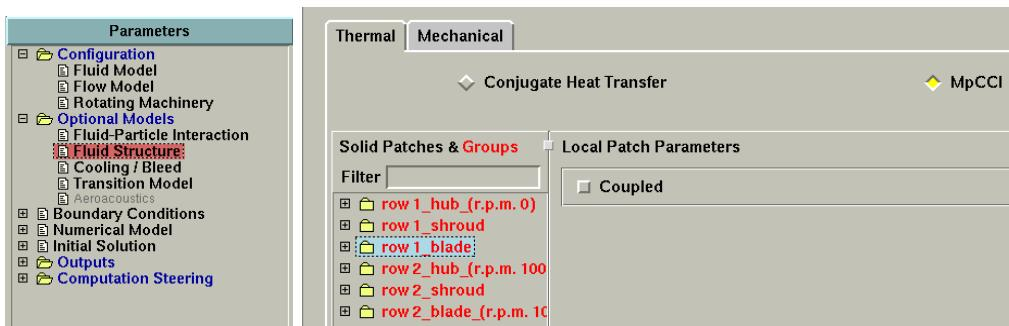
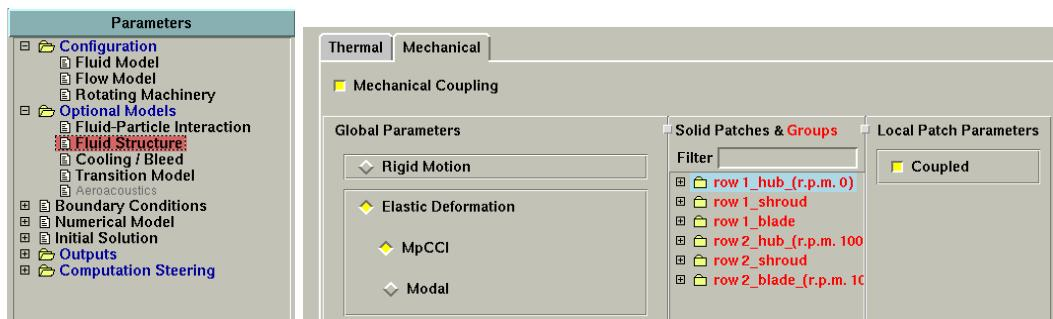

Figure 2: Setting coupled thermal boundaries in FINE/Turbo GUI
Figure 3: Setting coupled mechanical boundaries in FINE/Turbo GUI
2. If you are familiar with FINE/Turbo, you can set up your model as usual and activate the boundaries by yourself for the coupling (▷ 6.2.1 Model Preparation ↳) in FINE/Turbo GUI: Optional Models - Fluid Structure - Thermal or Mechanical (see Figure 2, Figure 3).